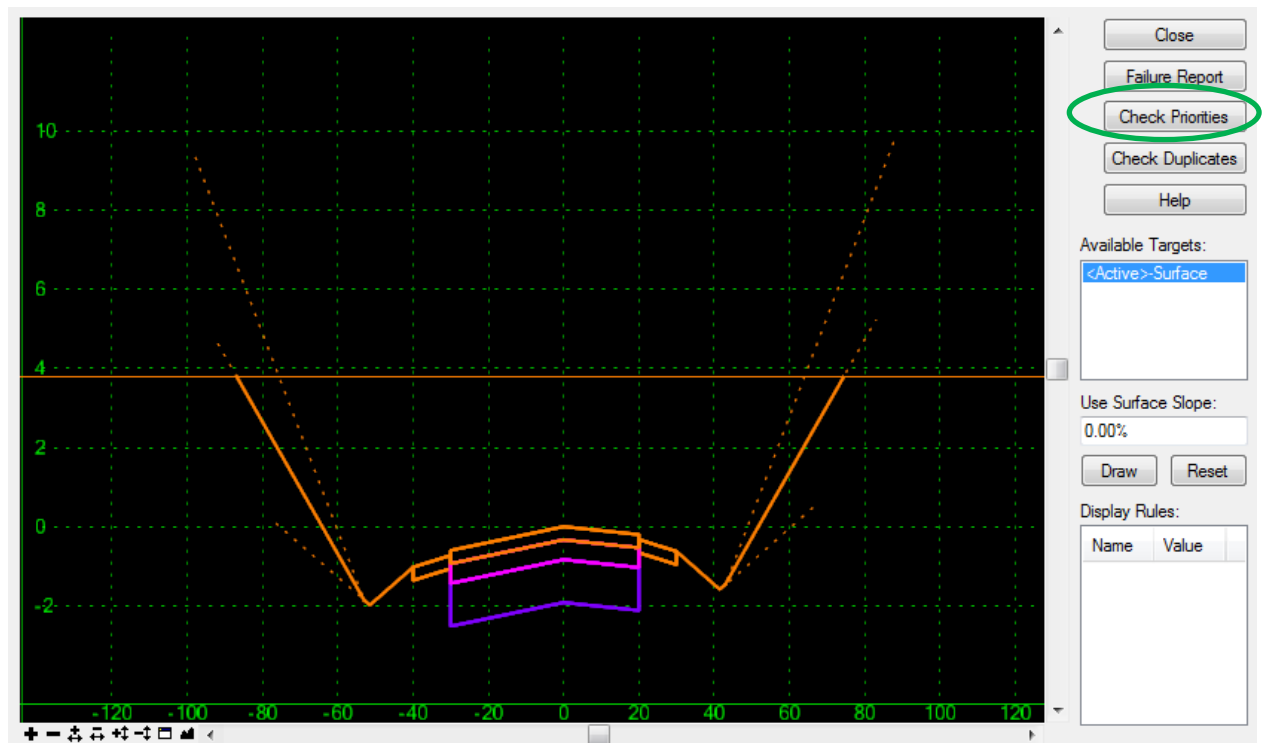

Figure 6-23 InRoads Test end Conditions Dialog Box
- P. Click on the **Check priorities** box within the test template interface window shown above in Figure 6-23.